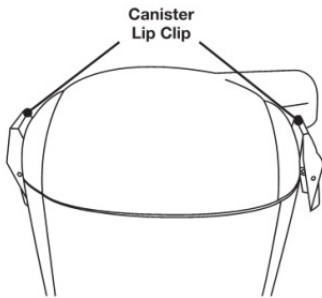

Fig 18
1. To remove the **HEPA** dust bag, press on the canister lid tabs on each side of the unit and lift canister lid. (Fig.18)
2. Pull the tab on the HEPA dust bag holder out slightly and lift upwards.(Fig.18)